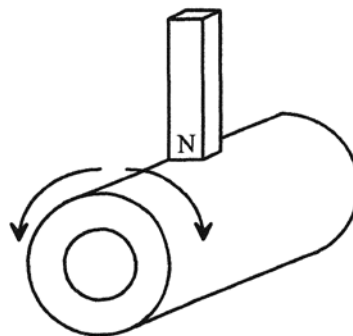

Figure 5
19. Place one magnet on the coil as shown in Figure 5.